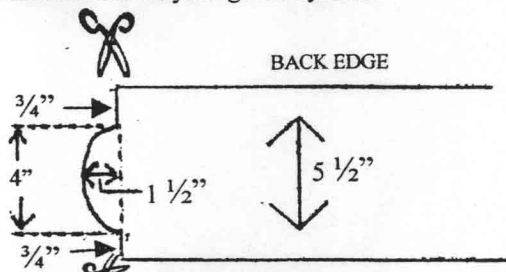

Figure 1 – Viewing down on gutter from above.
A. Begin at one end of your gutter. Take the first piece of FLO-FREE and, with the smooth side up, lay it over your gutter allowing it to hang over the end of your gutter by approximately 1 ½ inches (see figure 1). Notch the 1 ½" overhang as shown below. This overhang portion will be used to seal the end of your gutter system.